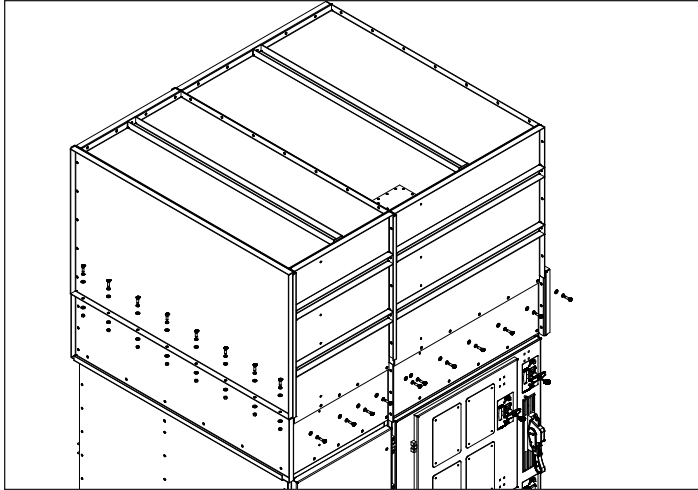

Figure 12. Installing Plenum Assembly.
5. Secure the plenum assembly around its entire perimeter with 5/16" fasteners as shown in Figure 12. Every bolt must have a lockwasher and a flat washer. Every nut must have a flat washer.